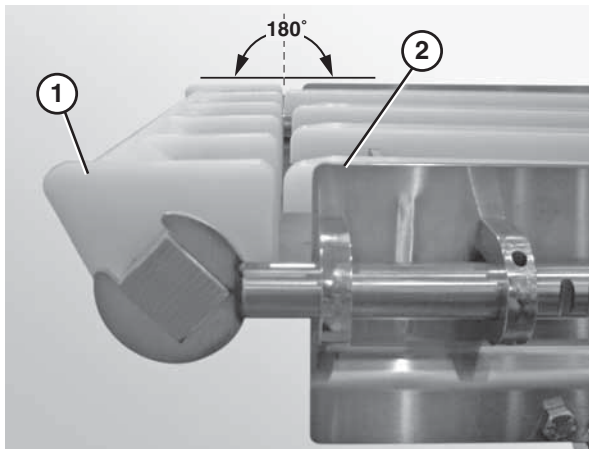

Figure 29
5. Ensure that the nose bar pucks (**Figure 29, item 1**) are in line with the conveyor frame (**Figure 29, item 2**).